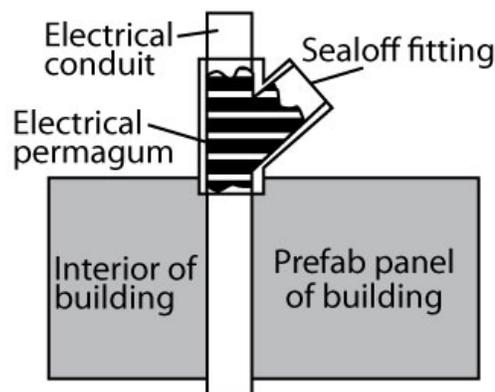

Figure 17
- C. Condensation in electrical junction boxes is caused by warm vapor passing from the exterior to the interior of the Walk-In through electrical conduit lines. This problem can be eliminated by installing a seal-off fitting in the conduit line where it passes through the wall. Install the fitting as shown in *Figure 17* and fill it with sealant.